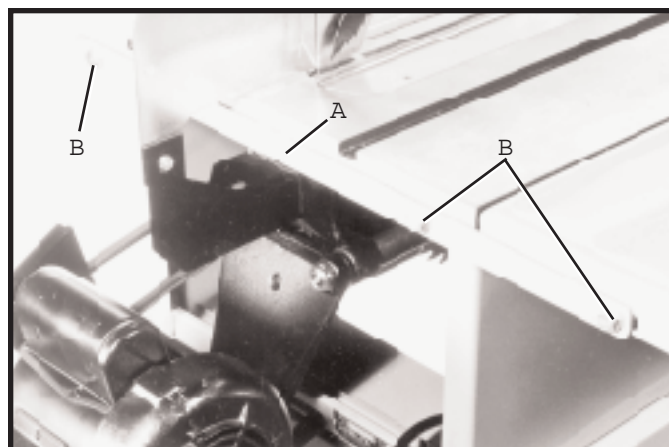

Fig. 40
1. Assemble rear extension wing support bar (A) Fig. 40, to the saw table and extension wing, using three 3/8-16 x 1 long hex head screws, flat washers, and hex nuts (B).